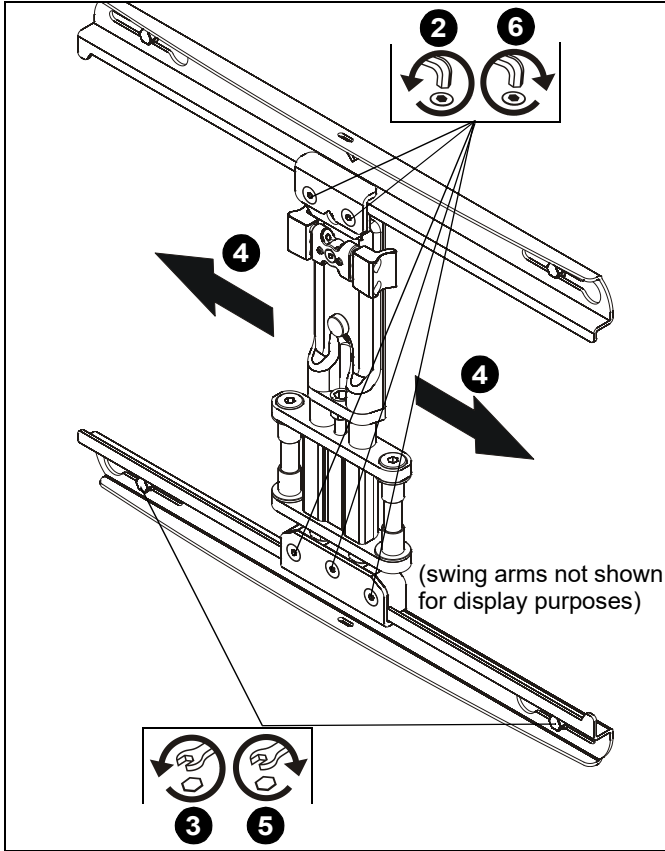

Figure 33
- Remove wall rail covers (N) to expose lateral shift adjustment screws on wall rails.
- Loosen five lateral shift adjustment screws using 3/16" hex key (CC). (See Figure 33)
- Loosen two lower lag screws securing lower rail to the wall. (See Figure 33)
- Slide mount laterally to desired mounting position. (See Figure 33)
- Tighten two lower lag screws. (See Figure 33)
- Tighten five lateral shift adjustment screws. (See Figure 33)
- Reinstall wall rail covers (N).